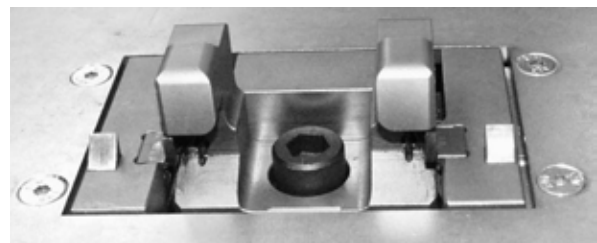

*Fig. 4.17 – Bending station turned towards the inside of machine*
By pushing the pedal the machine starts the bending cycle if the bending station is turned upwards, if it is turned towards the inside of machine (see fig. 4.17) starts the cutting cycle. By releasing the pedal the machine stops.
1. Check that the bending station **I** (fig. 4.17) is turned towards the inside of the machine. Otherwise, follow directions at points 3 and 6 of procedure in Paragraph 4.3.3.6 “*End of bending operation*” of this Chapter;